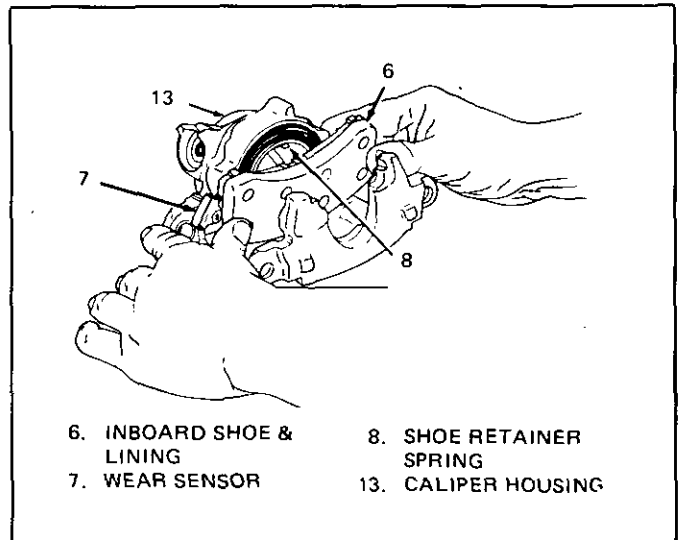

Figure 8 Installing Inboard Shoe and Lining
3. Inboard shoe and lining (6) as shown in Figure 8 with wear sensor (7) at leading edge of shoe during forward rotation